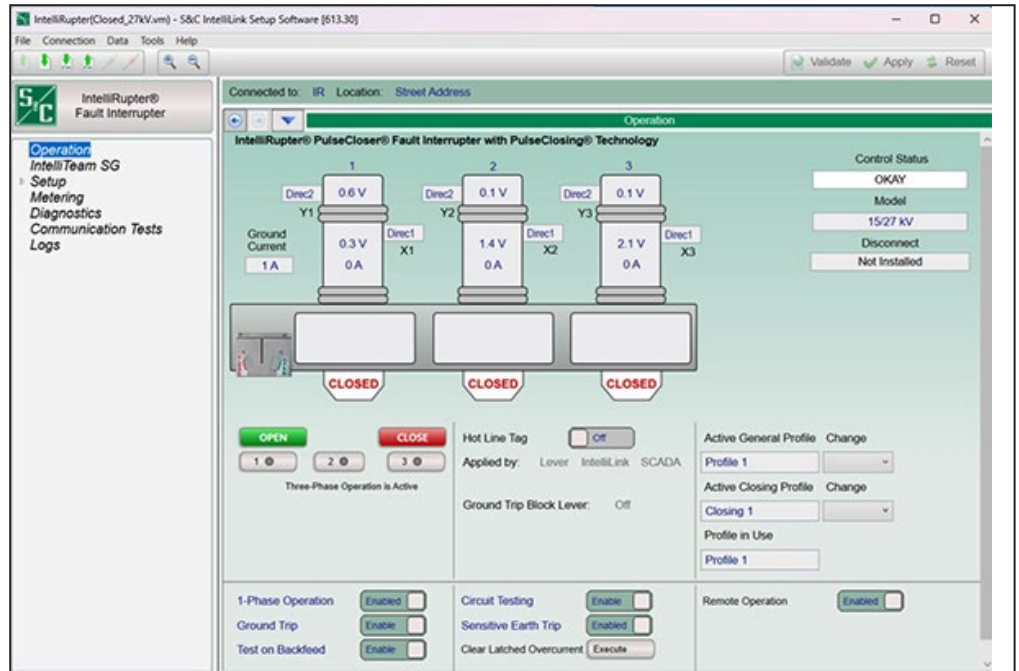

Figure 19. The IntelliRupter fault interrupter *Operation* screen.
STEP 9. When the login has completed, the *Operation* screen appears. See Figure 19.